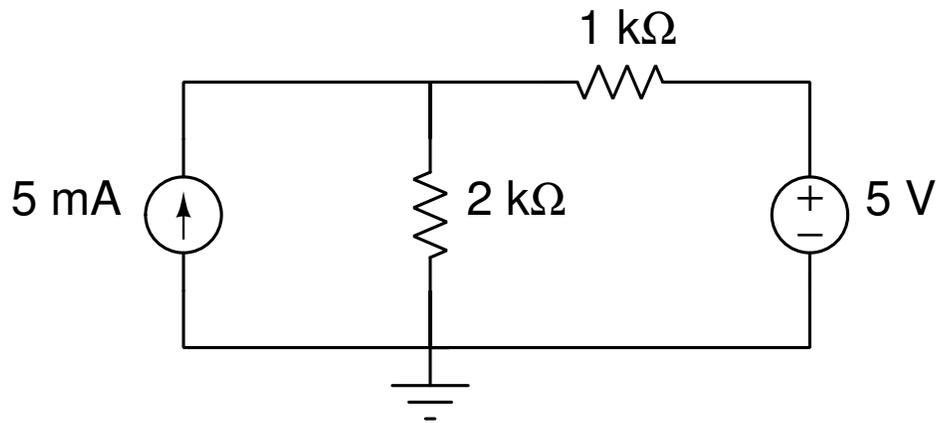

Figure 2: Circuit to illustrate functionality of Micro-Cap.
The following tutorial will describe the circuit simulator Micro-Cap, an analysis package that you will use in many courses and perhaps even as a practicing engineer. This write-up will get you to a point where you will be able to create a schematic drawing for a circuit containing all the devices we have used thus far in lab. You will then be able to have Micro-Cap calculate the DC voltages at each node in the circuit and plot the transient response for circuits with inductors, capacitors and resistors. We will begin by building the very simple circuit shown in Figure 2.
9. Now you must wire up the missing connections. Change the mouse to a wiring tool by selecting the Wire Mode Icon which is 3 icons to the right of the Select Mode Icon. You can also type (`Ctrl+W`). Use this icon to draw two wires connecting the current source to the 2k resistor and the negative side of the voltage source. Your circuit should now look almost like the schematic in Figure 2.